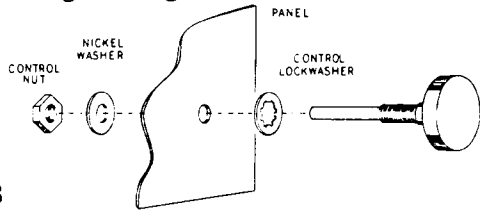
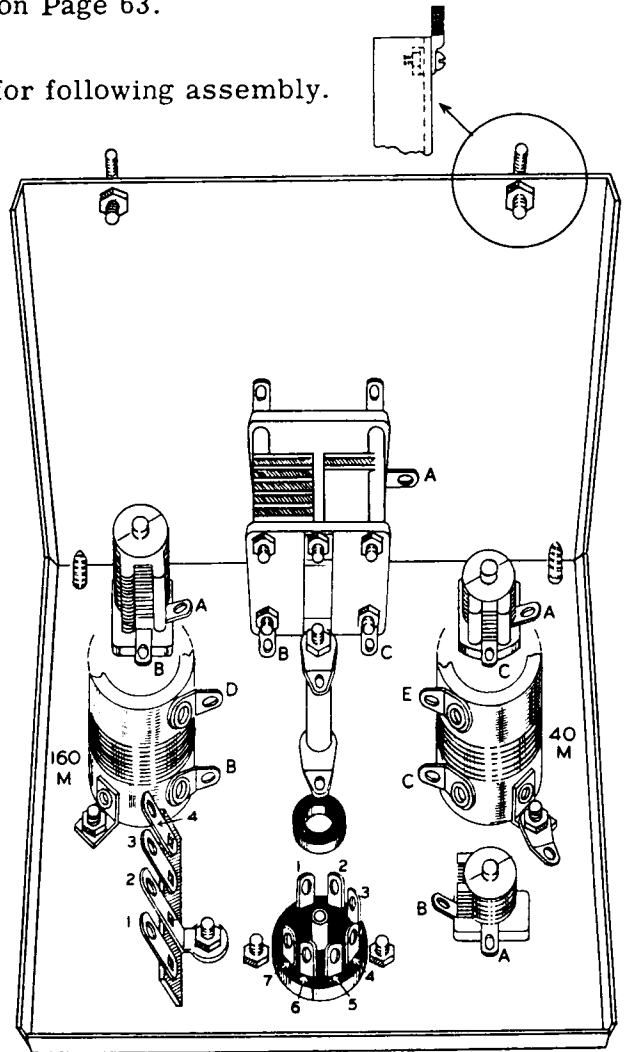
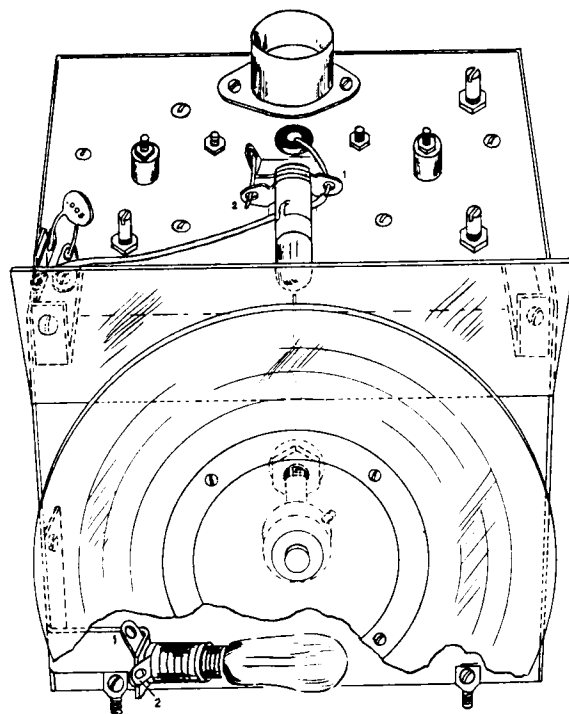

Figure 3
Figure 2
Figure 5
- () Mount the differential tuning capacitor to the VFO sub-chassis as shown in Figure 2. Place a 3/8 lockwasher on the back of the chassis and a 3/8 flat washer and nut on the front. See Figure 3. Align the capacitor so the stator plates appear as shown in Figure 2 before tightening.
- () Mount the 40 M coil 40-55 on the other side of the chassis in the same manner but using a solder lug on the rear bracket in place of the lockwasher. See Figure 2.
- () Mount the 20 μμf trimmer capacitor in front of the 160 M coil. Position as shown in Figure 2 and secure using the 1/4" nut on top of the chassis.
- () Mount a 9 μμf trimmer capacitor in front of the 40 M coil in the same manner. Position as shown in Figure 2.
- () Mount a 9 μμf trimmer capacitor to the rear of the 40 M coil and position as shown in Figure 2.
- () Referring to Figure 5, insert a 1 1/2" 6-32 screw through a solder lug, then through the dial light bracket and chassis top. Position the dial light and solder lug as shown. On the underside of the chassis, slip a solder lug, a 1 1/8" spacer, another solder lug and a 6-32 nut over the protruding screw. Position the solder lugs as shown in Figure 2 and tighten.
- () Mount the 7-pin shielded ceramic tube socket with the pins positioned as shown in Figure 2 using 3-48 screws and nuts.
- () Mount a 4-lug terminal strip as shown in Figure 2 using a lockwasher under the nut.
- () Connect a tinned bare wire from point A on the 20 $\mu\mu\text{f}$ trimmer capacitor (S) to point A on the differential tuning capacitor (NS).
- () Connect a bare wire from point A on the differential tuning capacitor (S) to point A on the front 9 $\mu\mu\text{f}$ trimmer capacitor (NS).
- () Connect a bare wire from this point (S) through the solder lug on 40 M coil bracket (NS) to point A on the rear 9 $\mu\mu\text{f}$ trimmer capacitor (NS).
- () Connect a bare wire from the solder lug on the 40 M coil bracket (S) through the solder lug at the base of the 1 1/8" spacer (NS) to the #2 terminal (see Figure 2) of the 4-lug terminal strip (NS).
- () Connect a bare wire from the top solder lug on the 1 1/8" spacer (NS) through the bottom solder lug (S), over to the tube socket through pin 3 on the tube socket (NS) to the center post of the tube socket (NS).
- () Run a bare wire through terminal B of the 160 M coil (NS) then through terminal B of the differential capacitor to point B of the 20 $\mu\mu\text{f}$ trimmer capacitor. Solder the connections on the two capacitors and make a mechanical connection at the coil terminal (NS).
- () Run a bare wire through terminal C on the 40 M coil (NS) through terminal C on the differential capacitor to point C on the 9 $\mu\mu\text{f}$ trimmer capacitor. Solder the connections on the two capacitors and allow 3" of bare wire to protrude from the rear of the coil terminal for later connection to the switch. See Pictorial 1.
- () Mount the light shield to the top of the VFO chassis, using #6 sheet metal screws as shown in Figure 5. Include a single-lug terminal strip and solder lug on the right side as shown.
- () Connect a black wire from terminal 1 of the pilot lamp socket (S) to the insulated lug of the 1-lug terminal strip (NS).
- () Connect a .005 μ fd disc ceramic capacitor from the same terminal (NS) to the adjacent solder lug (S).
- () Mount two 6-32 spade screws to the bottom flange of the chassis as shown in Figure 2, using lockwashers under the nuts.